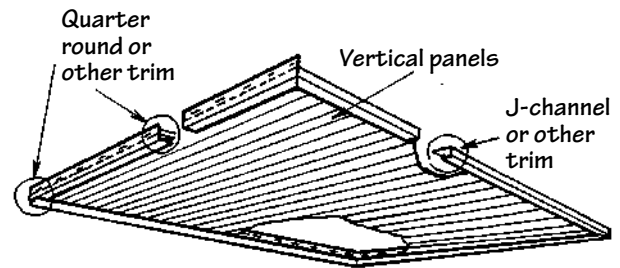

Figure 73.
1. Begin by installing receiving channels on all four sides of the porch (Fig. 73). If F-channels are being used, nail them to the existing walls. If J-channels are being used, a nailing base will have to be installed.